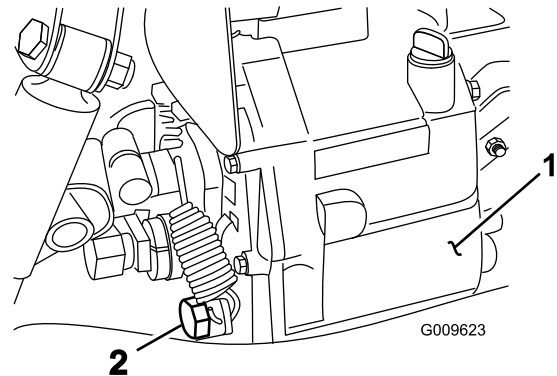

Figure 64
2. Remove the drain plug from the side of the reservoir and let the hydraulic fluid flow into a drain pan (Figure 64).